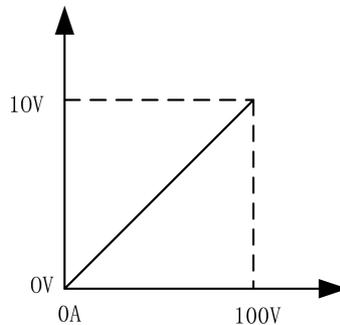

Fig. 4-27 Proportional diagram: real-time welding voltage V.S. value from welding machine to robot
6. The proportional diagram of feedback of the real-time welding voltage is shown in Fig. 4-27.